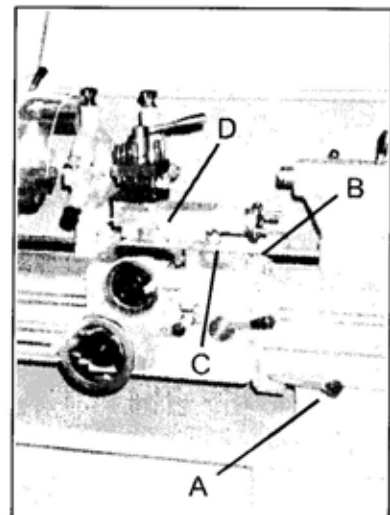

Fig. 13
6. **Forward/Reverse Lever** (A, Fig.13) – located on the right side bottom of the apron. Pull lever up for clockwise spindle rotation (reverse). Push lever down for counter-clockwise spindle rotation (forward). Neutral position is a center detent and the spindle remains idle.
7. **Carriage Lock** (B, Fig.13) – hex socket cap screw located on top rear of carriage body. Turn clockwise and tighten to lock. Turn counter-carriage. Caution: carriage lock screw must be unlocked before engaging automatic feeds or damaged to lathe may occur.
8. **Compound Rest Lock** (C, Fig.13) – set crew located on side of compound rest. Turn clockwise to lock and counter-clockwise to unlock.
9. **Cross Slide Lock** (D, Fig. 13) – set screw located on side of cross slide body. Turn